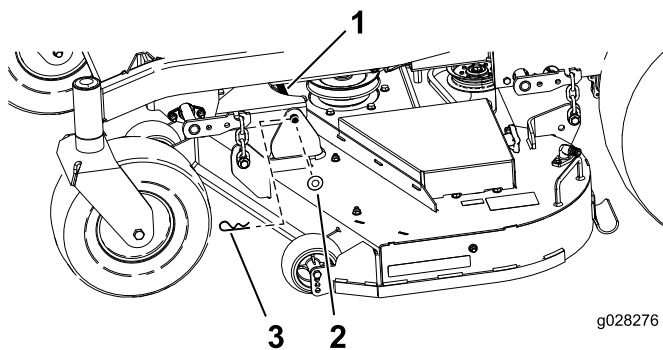

Figure 73
6. Remove the hairpin cotter and washer securing the link pin to the frame and deck, and remove the link bar (Figure 73).
9. Secure the link pin with the hairpin cotters and washers removed previously (Figure 73).